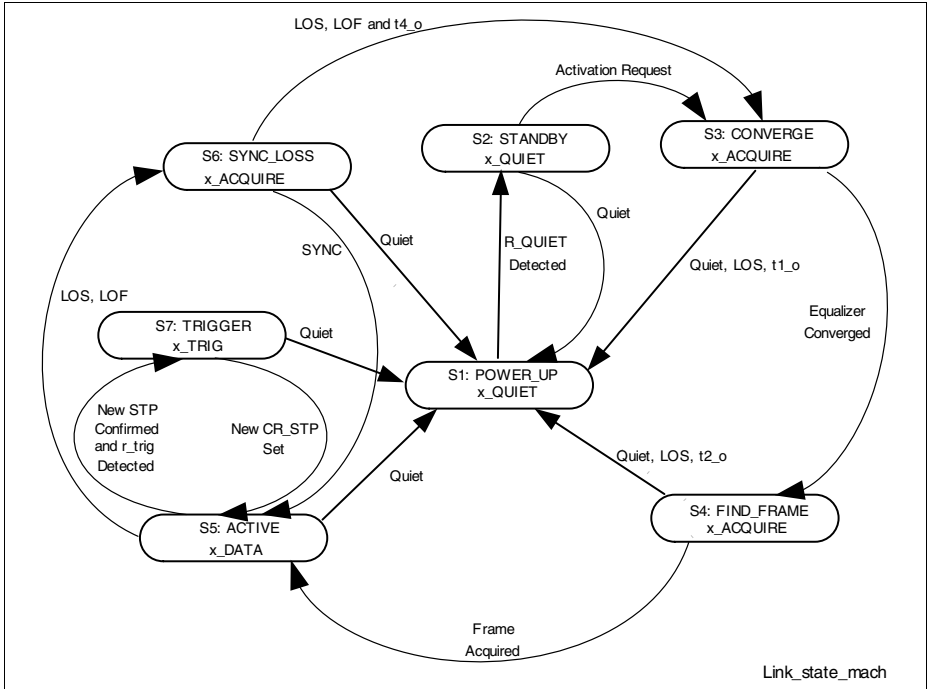

Figure 16 The Link State Machine
The Link State Machine is shown in Figure 16 and described in detail in the “*VTU-x State Machine*” sections of the ETSI Standard, where *x* indicates O (LT) or R (NT). See [Reference \[2\] on page 291](#).